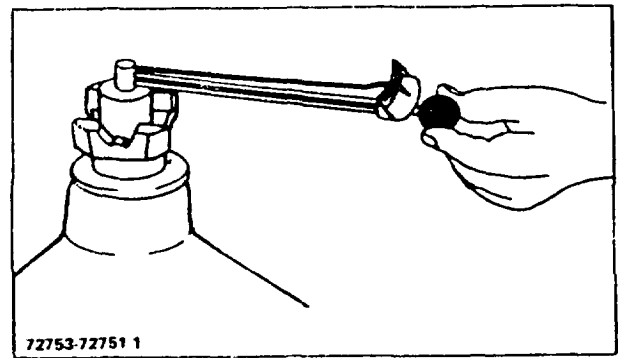

Figure 3-8. Measuring Bearing Preload
6. Measure the pinion bearing preload with a torque wrench and refer to following preload chart. Torque reading must be made with a reliable torque wrench that will clearly indicate pounds per inch. Use a torque wrench with a zero to 100 lb-in. range. (See Figure 3-8.)